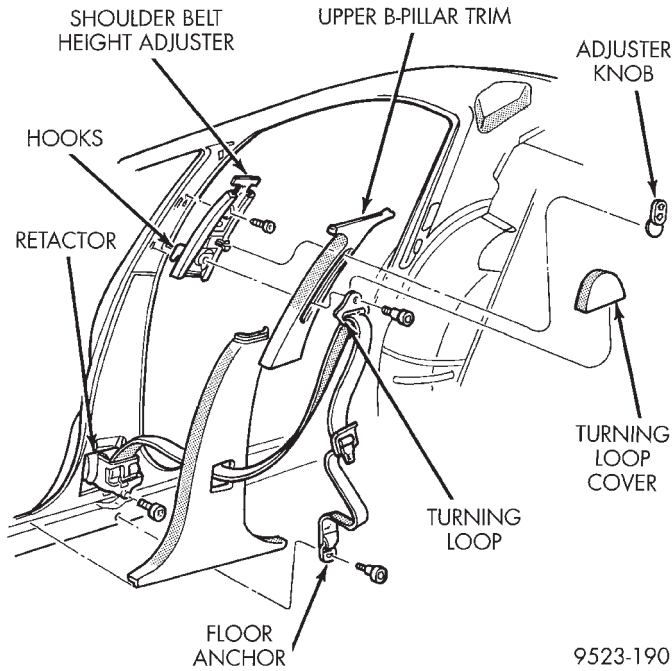

Fig. 75 Seat Belt – Front Outboard
- (1) Remove upper B-pillar trim panel.
- (2) Remove lower B-pillar trim panel.
- (3) Remove bolt attaching seat belt retractor to B-pillar (Fig. 75).
- (4) Remove retractor and belt from vehicle.